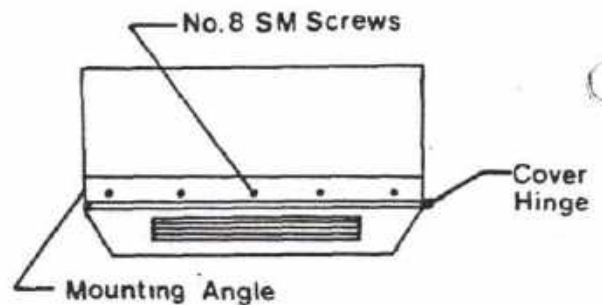

FIG. 3
- 4) Install mounting angle as shown in Fig. 3, using No. 8 self drilling screws provided.